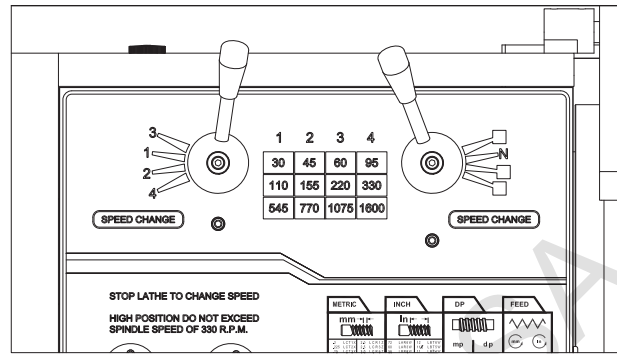

Figure 16. Headstock range lever.
4. Move the spindle range lever so that the indicator points to the A. (Figure 16)
5. Rotate the spindle speed lever so that the indicator points to the 1. (Figure 16)